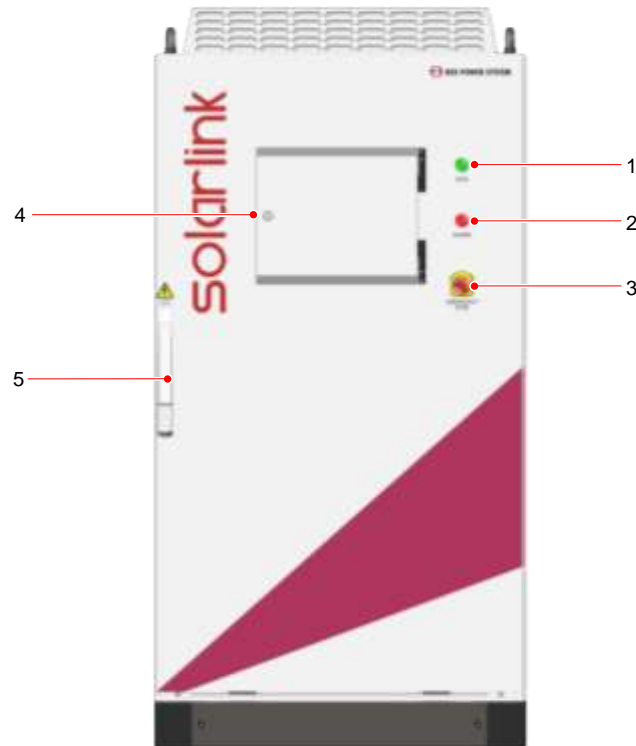

Figure 1: H3100SOD/LOD Front view door closed
* Figure 1 is provided to help users understand where external components are located as well as their appearances.